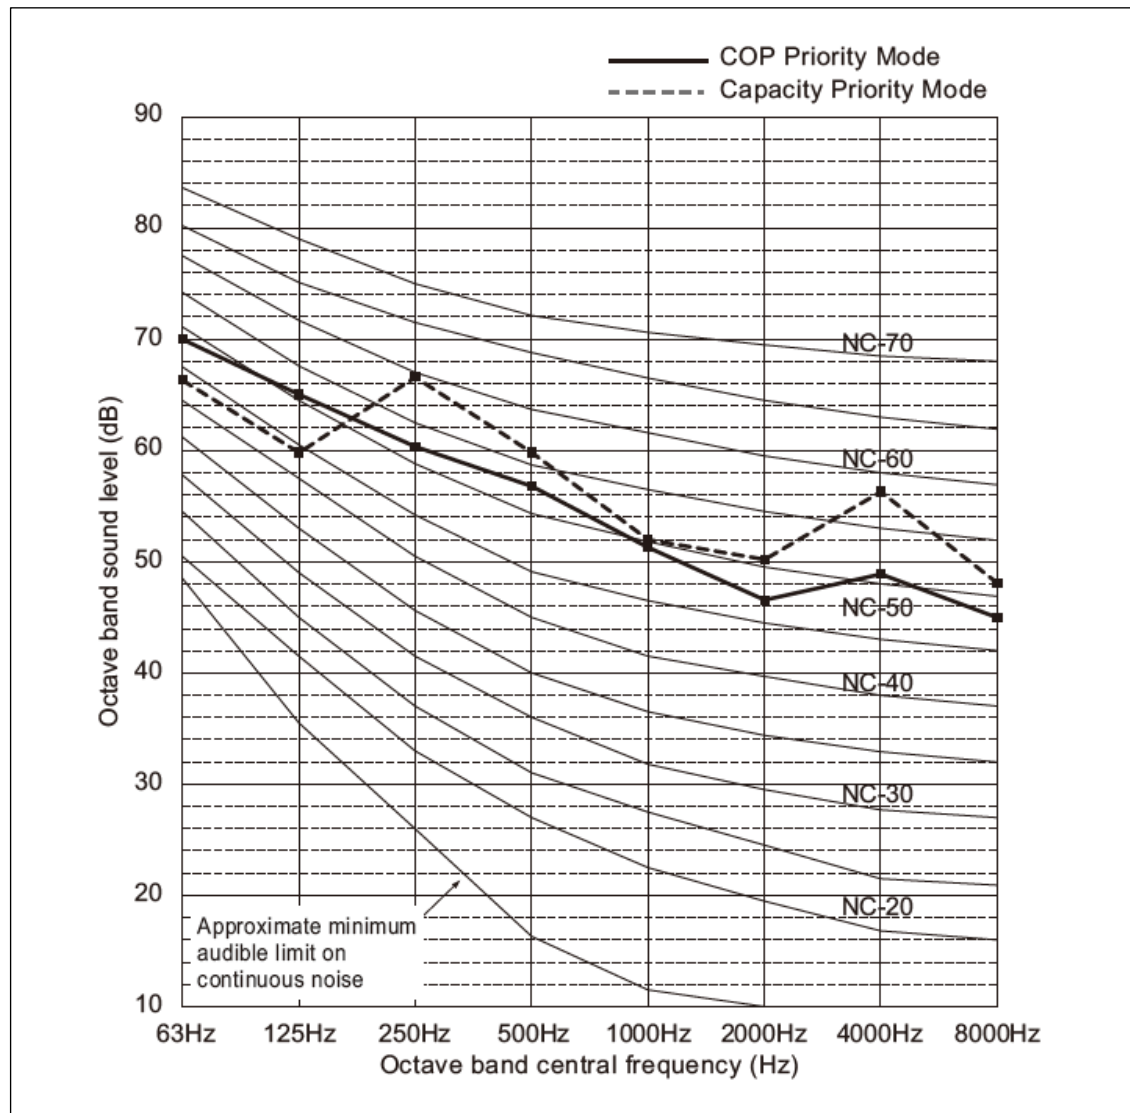

Figure 10.2: Manufacturer's Noise Data
- 10.3 Manufacturer's noise data for the proposed heat pump units (Mitsubishi CAHV-P500YA-HPB) are shown in **Figure 10.2** below: